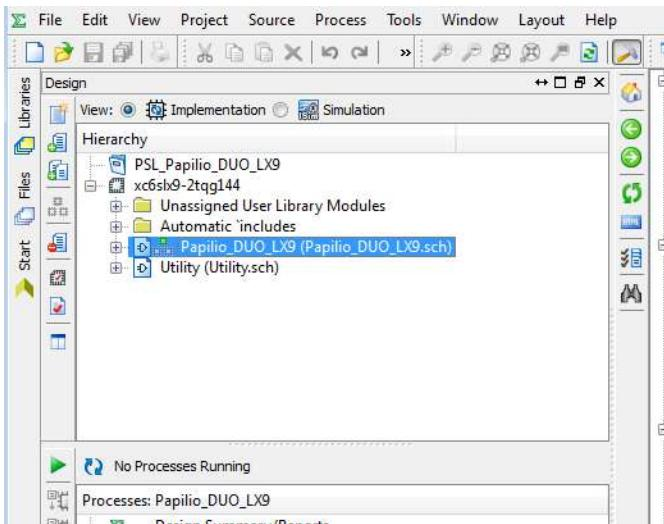

Figure 6-16 Open the schematic
1. In the Design→Implementation→Hierarchy view in ISE, double-click "Papilio_DUO_LX9 (Papilio_DUO_LX9.sch)," as shown in Figure 6-16. Here's where the magic begins. DesignLab has created your top-level schematic starting point for you. This top-level schematic is really a functional block diagram of your design. Each symbol has full HDL under it describing the design of the IP block it represents.